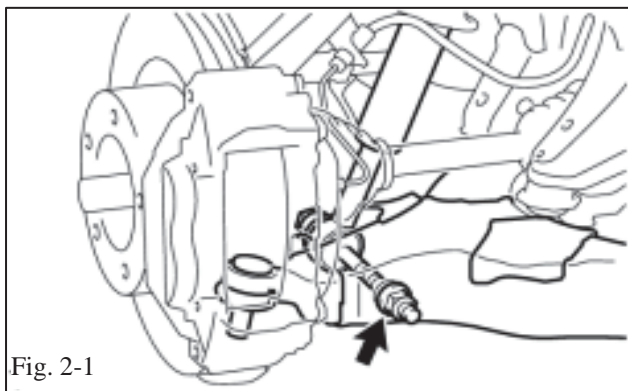
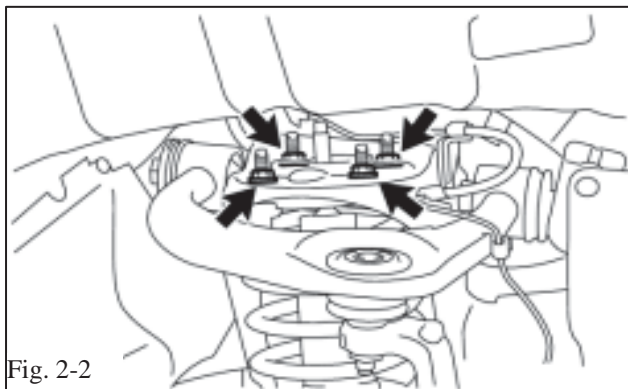

Fig. 2-1
Fig. 2-2
- (b) Remove the nut and bolt from the shock absorber lower side. (Fig. 2-1)
- (1) To prevent the shock absorber with coil spring from falling, leave the bolt inserted.
- (c) Remove the top 4 nuts. (Fig. 2-2)